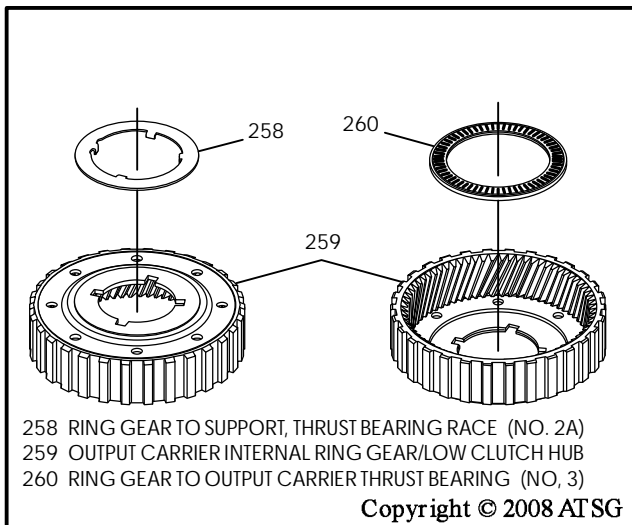

Figure 109
5. Install number 2A thrust bearing race onto the output ring gear and low clutch hub, as shown in Figure 109, and retain with a small amount of Trans-Jel®.
6. Turn clutch hub over and install the number 3 thrust bearing into the clutch hub, as shown in Figure 109, and retain with a small amount of Trans-Jel®.